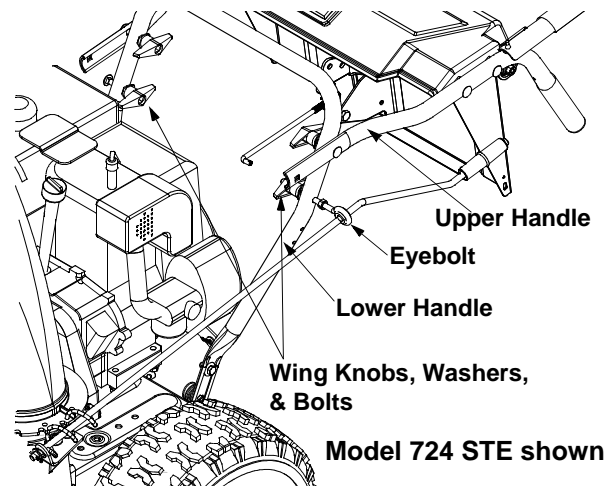

Figure 2
- **Model 926 STE:** Remove the **lower** two plastic wing nuts, cupped washers and carriage bolts from each side of the lower handle. See Figure 2.
- **Model 724 STE:** Remove the lower two plastic wing nuts, cupped washers and carriage bolt (eyebolt on the left side) from the lower handle. See Figure 2.